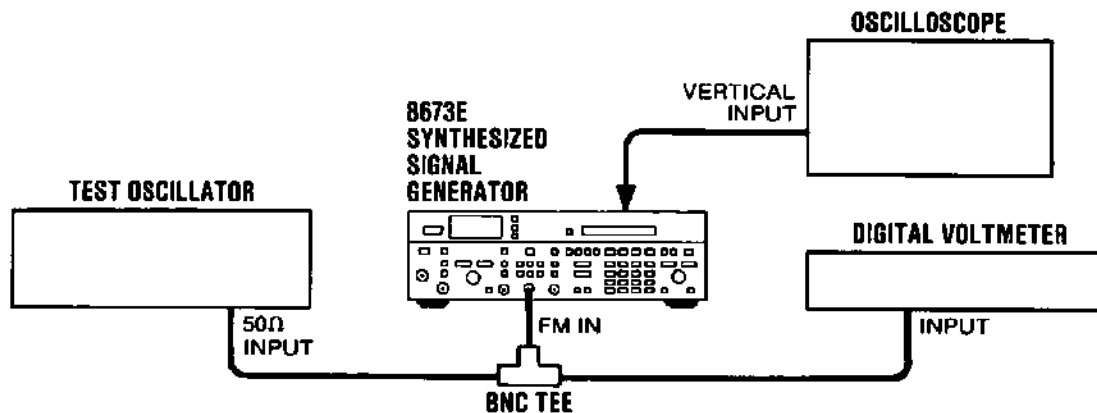

Figure 8-138. FM Signal Troubleshooting Test Setup
1. Connect the equipment as shown in Figure 8-138. Set the test oscillator to 100 kHz and 0.707 Volts amplitude as read on the Digital Voltmeter.
3. Connect the equipment as shown in Figure 8-138. Set the test oscillator to 100 kHz with an amplitude of 0.707 Vrms.